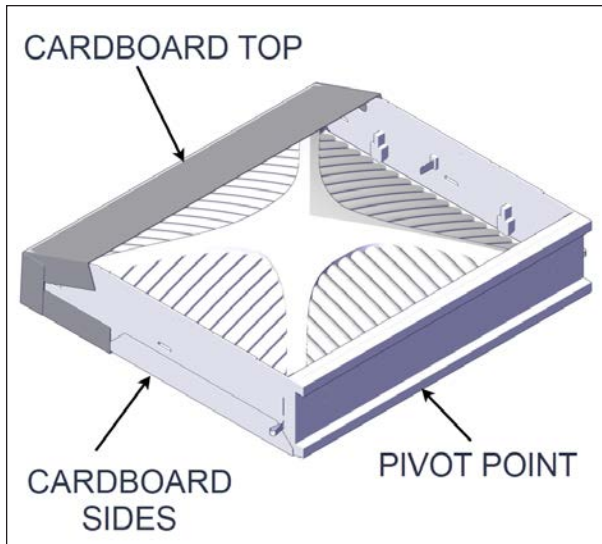

FIGURE 27: LAY THE CRATE ON ITS BACK
pivot point see Figure 27.
15. Remove the cardboard top and sides by simply unfolding them on the ground see Figure 27.